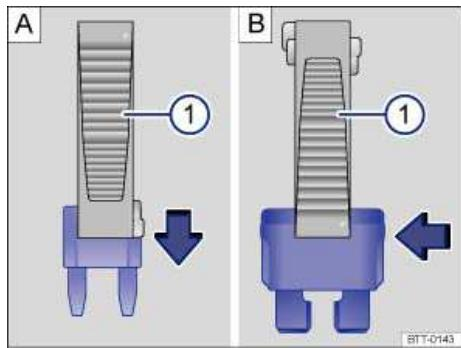

Fig. 348 Removing or inserting a fuse.
- If needed, remove the plastic tweezers ⇒ fig. 348 from the fuse box cover.
- For *small fuses*, slide the tweezers onto the fuse from the top ⇒ fig. 348 A.
- For *larger fuses*, slide the tweezers onto the fuse from the side ⇒ fig. 348 B.
- If the fuse is blown, replace the fuse with a new fuse of the *same* amperage (same color and same imprint) and *same* overall size ⇒ ①.